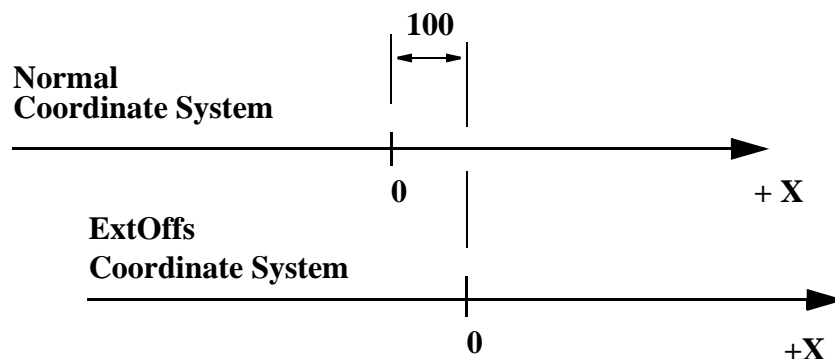

Figure 18 Displacement of an external axis.
- The ExtOffs coordinate system is displaced 100 mm for the logical axis “a” (see Figure 18).